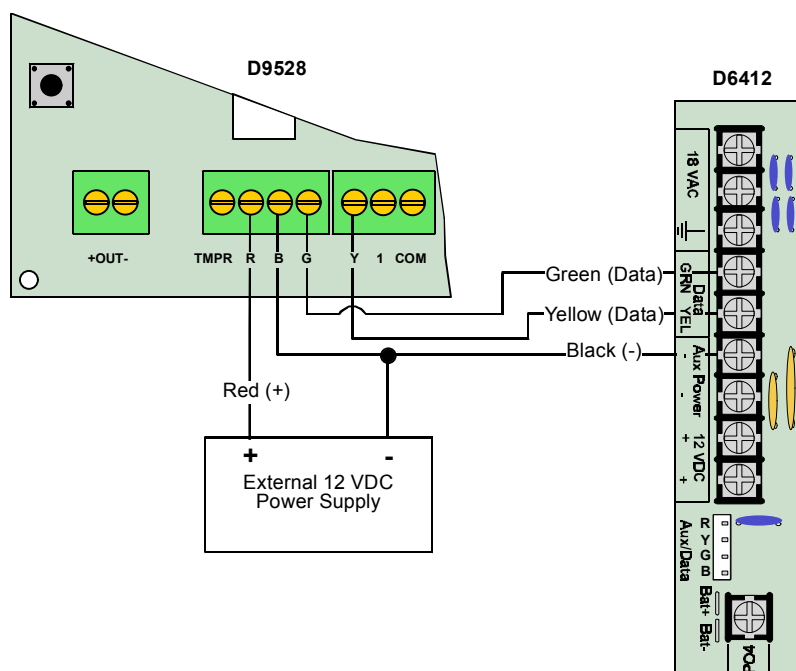

Figure 16: Wiring the D9528 for External Power Supply
- \*\* If the D9528 is powered directly by an external auxiliary power supply (Figure 16), use the wire lengths specified in the first row of Table 6.
If you need to power the D9528 with an external 12 VDC power supply, wire it as shown in Figure 16.